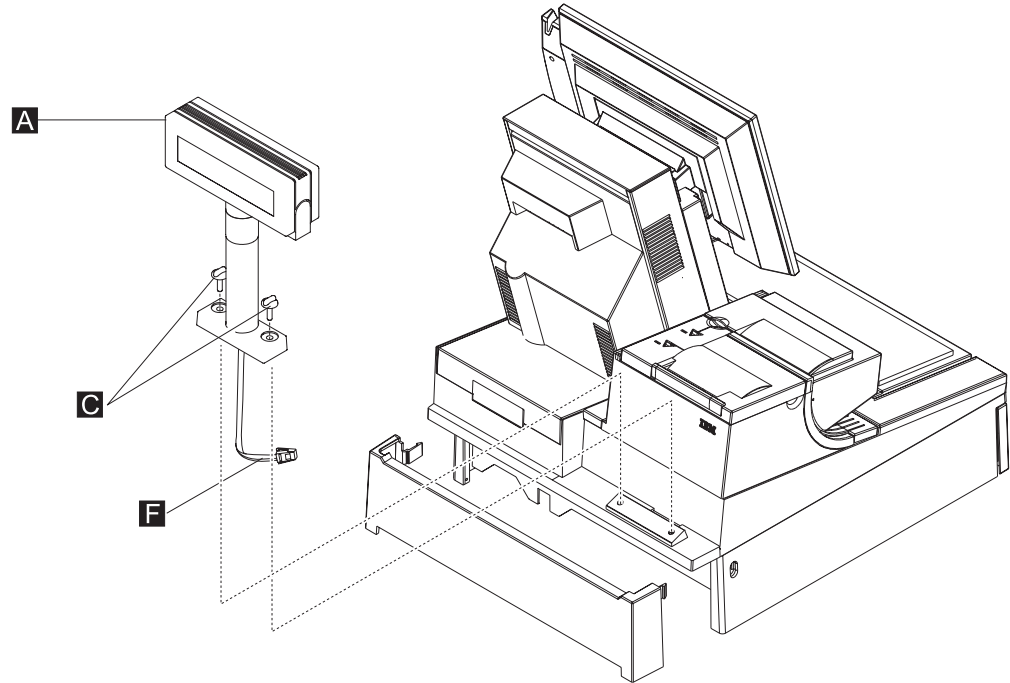

Figure 63. Installing the distributed customer display onto the keyboard integration tray
- a. Route the character display cable through the hole behind mounting post as shown in Figure 63. You might need to lay the display on its side to connect the display cable to the system unit rear connector panel.
- c. Attach the distributed customer display **A** to the cash drawer mounting post with two thumbscrews **C**. Snap the entire unit into place at the rear of the tray, as shown in Figure 63.